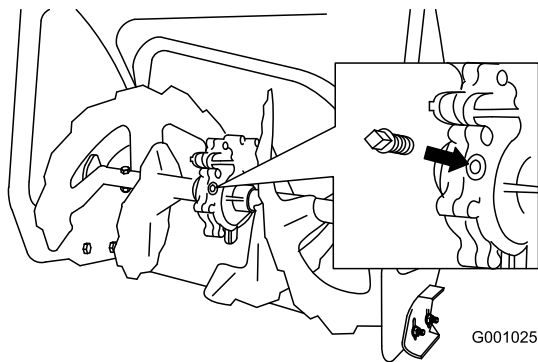

Figure 41
- Clean the area around the pipe plug (Figure 41).